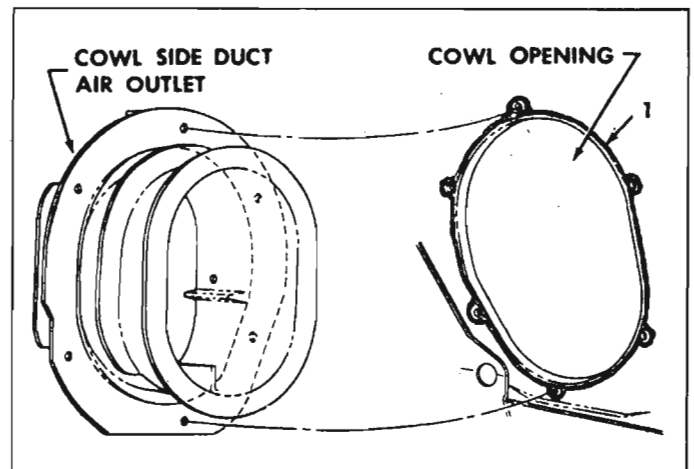

Fig. 10-26—Cowl Side Duct Air Outlet Sealing
3. To install, apply a bead of medium-bodied sealer to cowl panel at areas indicated by "1" (fig. 10-26) and reverse removal procedure.